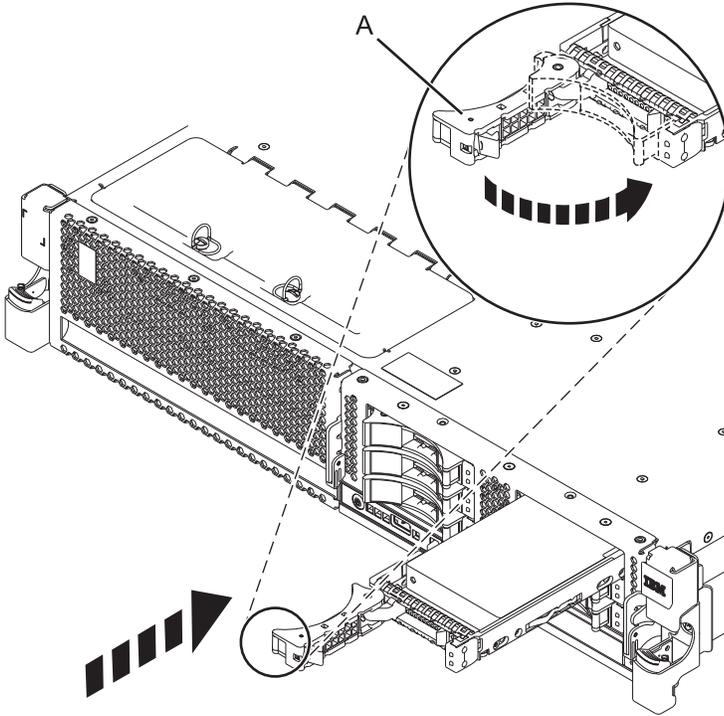

Figure 33. Installing a disk drive in the 8231-E2B, 8231-E1C, or 8231-E2C
11. When the service indicator starts flashing, slide the disk drive all the way into the system or expansion unit, and push the disk drive handle (A) in until it locks, as shown in Figure 33 on page 72.